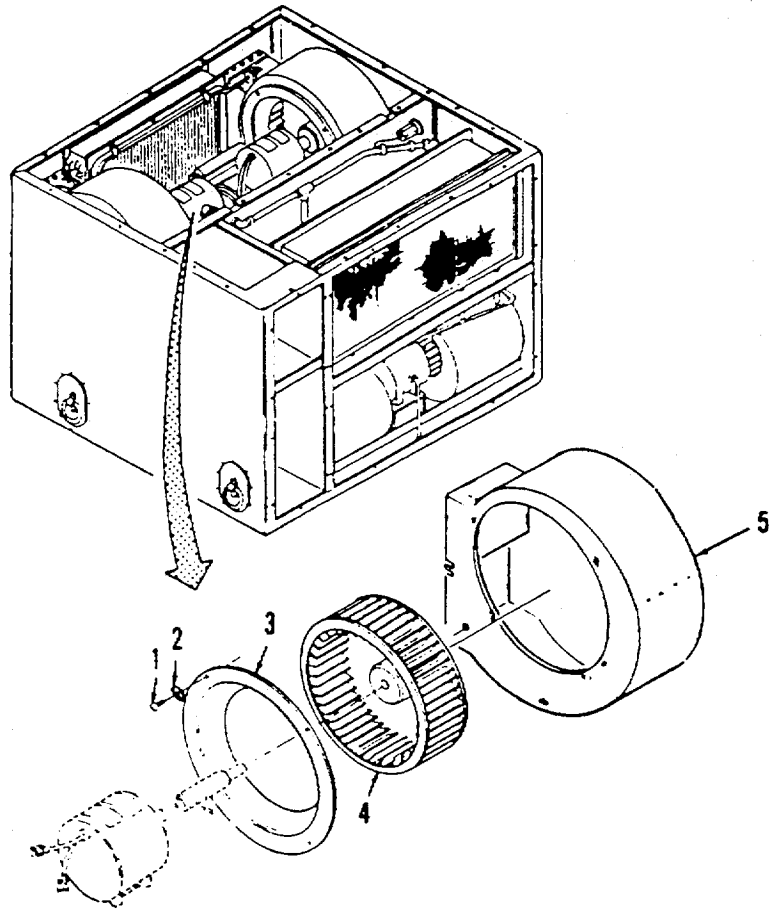

Figure 4-9. Condenser Impeller Fans,
**a. Removal.** (Refer to Figure 4-9).
- (1) Remove four screws (1), four flat washers (2), and inlet bell (3).